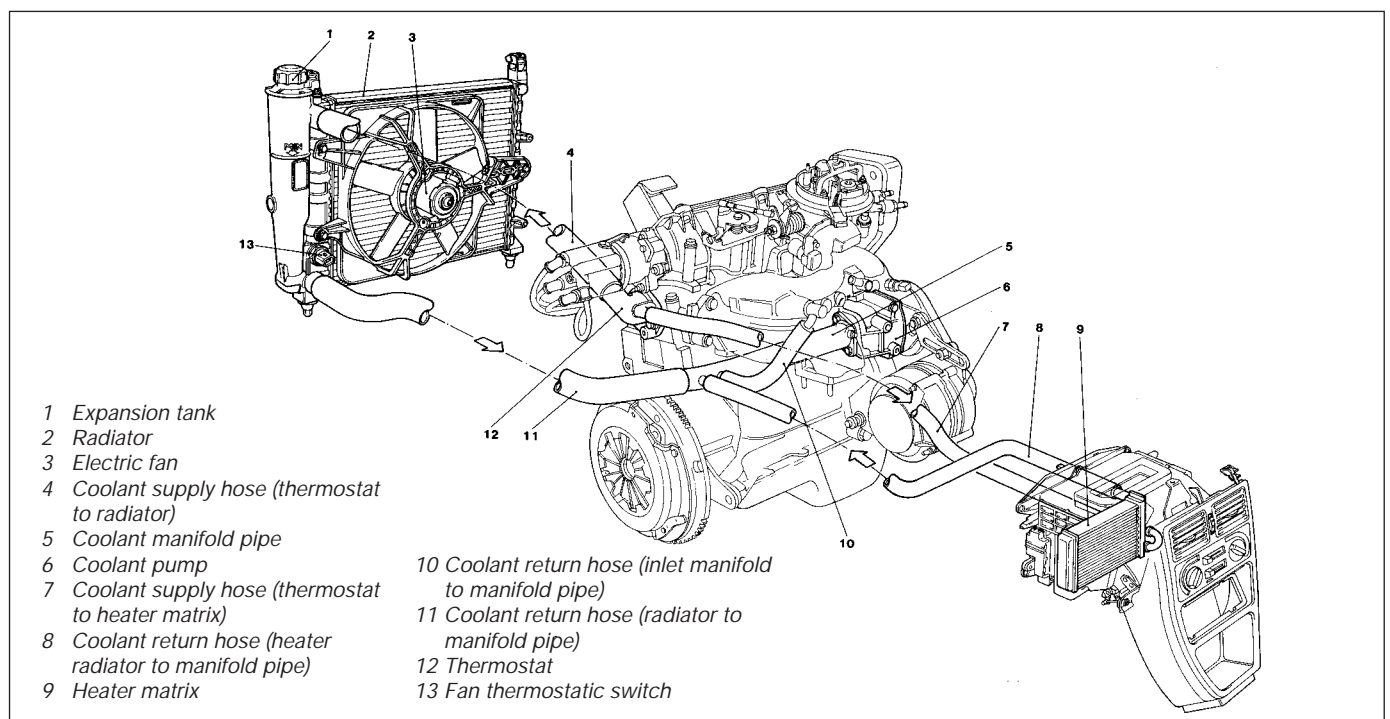

Fig. 13.29 Cooling system circuit - 1372 cc ie engine (Sec 8C)
- 1 The cooling system layout and components for the 1372 cc engines is shown in Figs. 13.29 and 13.30.